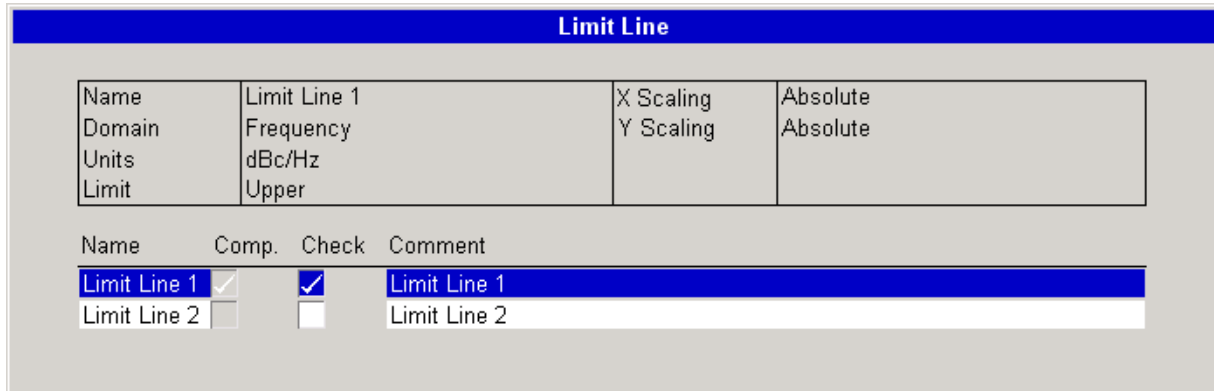

Fig. 4-13 *Limit Line* selection dialog box
DELETE The *DELETE* softkey deletes the limit line selected in the *Limit Line* selection dialog box (see Fig. 4-13).
1. In the *Limit Line* selection dialog box (see Fig. 4-13), focus the required limit line.